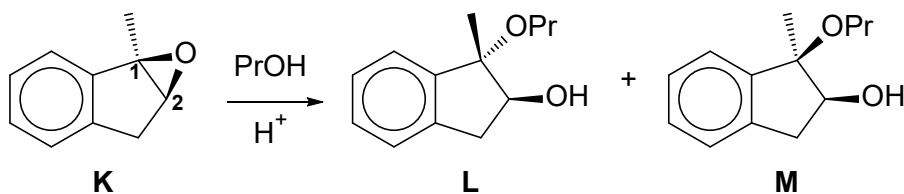

Fig. 6.1
- (b) Compound **K** can react with PrOH (where Pr refers to the propyl group, $\text{CH}_3\text{CH}_2\text{CH}_2-$), under different conditions to give different products. Fig 6.1 shows one specific condition that gives compound **L** and **M**.
- (iii) Describe the predominant mechanism for the reaction in Fig. 6.1. [3]